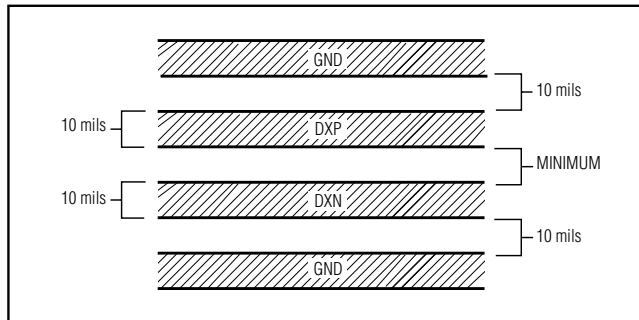

Figure 9. Recommended DXP-DXN PC Traces
- 3) Route the DXP and DXN traces in parallel and in close proximity to each other, away from any higher voltage traces, such as 12VDC. Leakage currents from PC board contamination must be dealt with carefully since a $20\text{M}\Omega$ leakage path from DXP to ground causes about 1°C error. If high-voltage traces are unavoidable, connect guard traces to GND on either side of the DXP-DXN traces (Figure 9).
- 6) Use wide traces. Narrow traces are more inductive and tend to pick up radiated noise. The 10-mil widths and spacing recommended in Figure 9 are not absolutely necessary, as they offer only a minor improvement in leakage and noise over narrow traces. Use wider traces when practical.